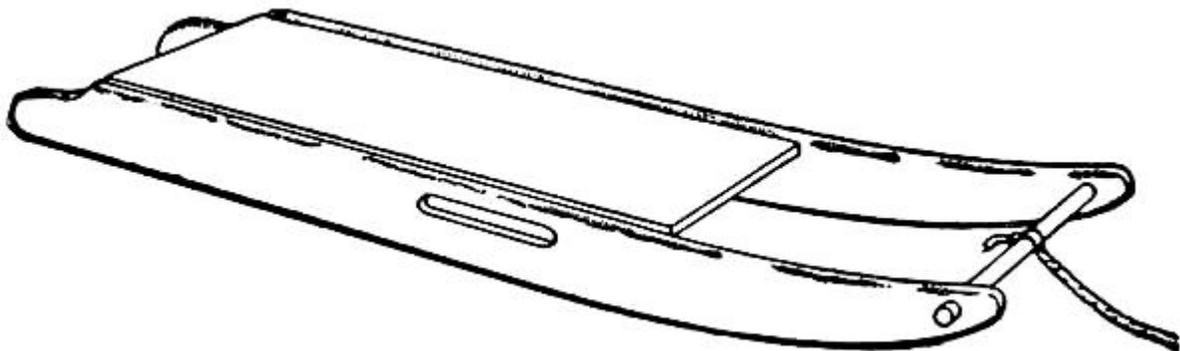

FIG. 314.—A Home-made Sled.
**A Home-made Sled**, such as that shown in Fig. 314, requires but little material, and if carefully made will prove stronger than the variety commonly sold in the shops.